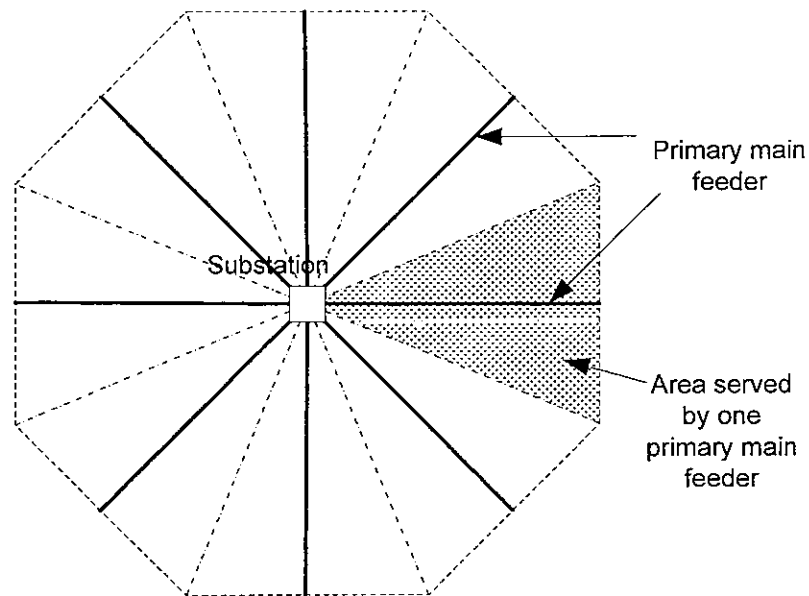

Figure 1
- (d) An octagon-shaped residential area is served by a substation located at the center. The primary distribution system consists of 8 primary main feeders with each feeder serving a triangular service area as shown in Figure 1. The substation provides 3-phase power with $V_{L-L} = 11$ kV and a lagging load power factor of 0.90. The main feeders are designed to be thermally limited with a maximum current rating of 200 A and a K constant of 0.001 %VD/(kVA-km). Assuming that the service area has a uniform load density of 1350 kVA/km², calculate the followings: